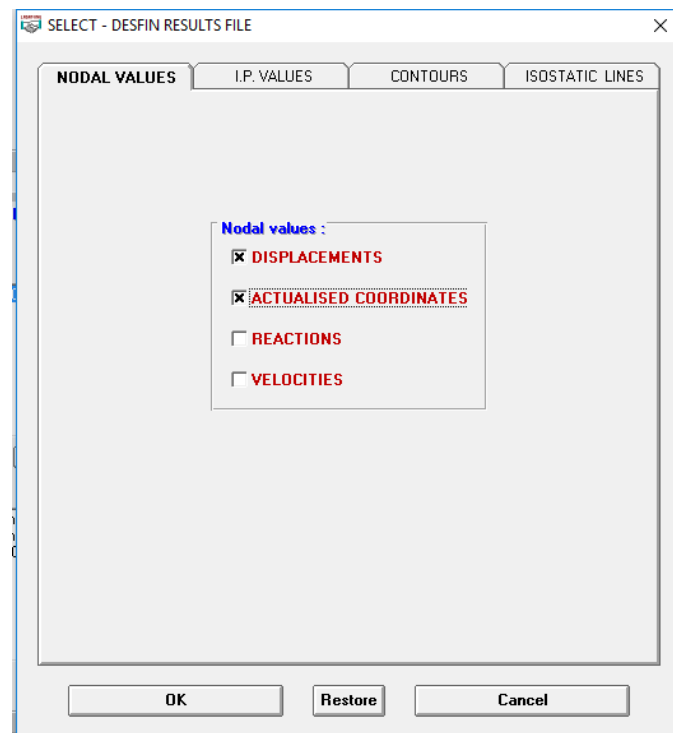

Figure 4.48
- *Nodal values*: it is possible to select the displacements, the updated coordinates, the reactions and the velocities at the nodes. Check here the first two boxes (Figure 4.48).